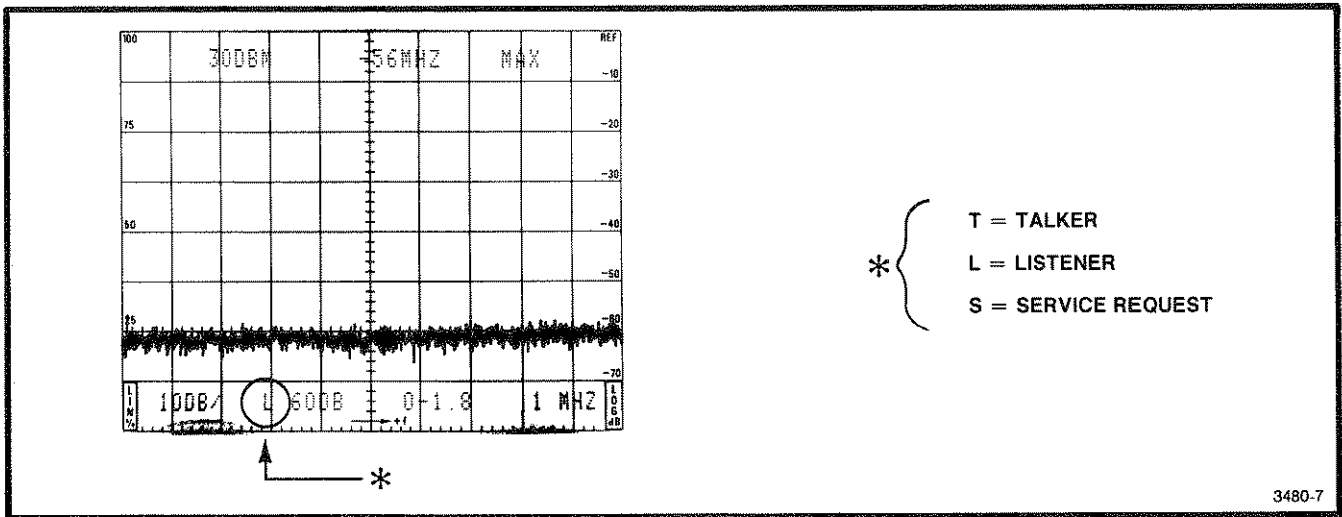

Fig. 3-14. Status of GPIB functions indicated when active.
**GPIB Function Readout.** A single character appears in the crt readout when the 496P is talking, listening, or requesting service. The character appears in the position shown in Fig. 3-14, but only while the 496P is addressed to talk or listen or is asserting SRQ.